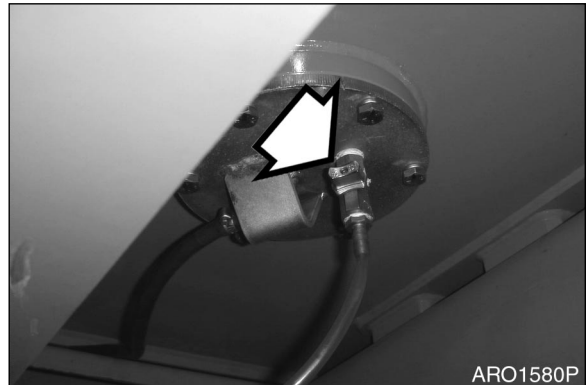

Figure 6
9. Place a large enough container under the tank to collect remaining fuel. Open drain valve (Figure 6) at bottom of tank and empty tank.